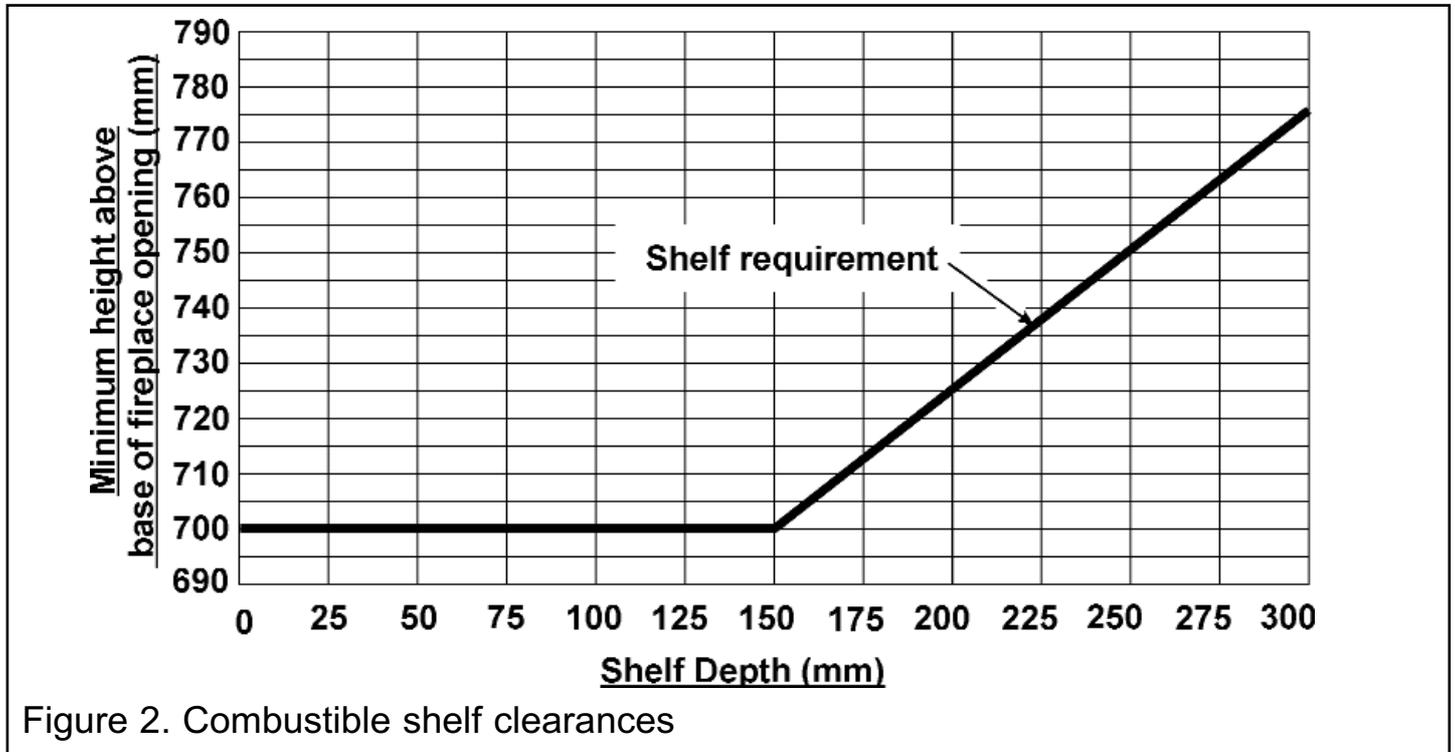

Figure 2. Combustible shelf clearances
- For a shelf deeper than 150mm: 700mm + 12.5mm for every 25mm depth over 150mm (See figure 2).